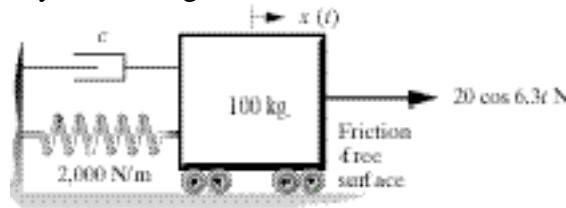

Figure P2.27
- 2.27** Compute a value of the damping coefficient c such that the steady state response amplitude of the system in Figure P2.27 is 0.01 m.